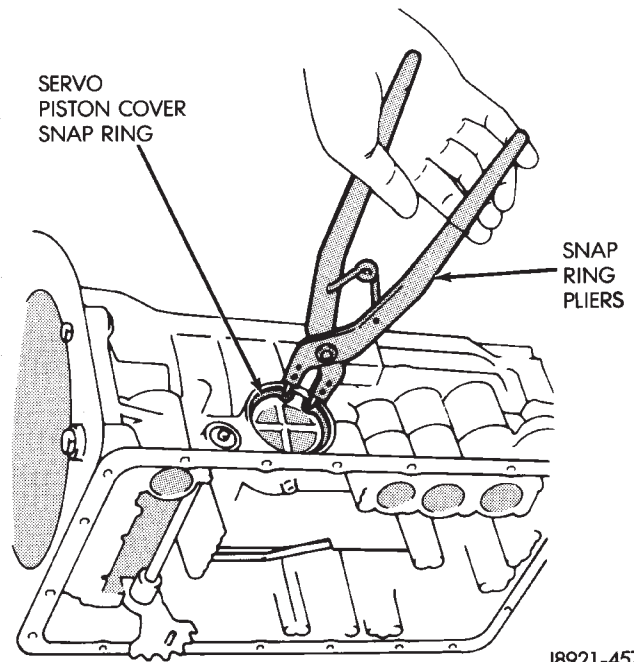

Fig. 30 Removing/Installing Servo Piston Cover Snap Ring
- (1) Remove valve body as outlined in this section.
- (2) Remove servo piston cover snap ring with snap ring pliers (Fig. 30).